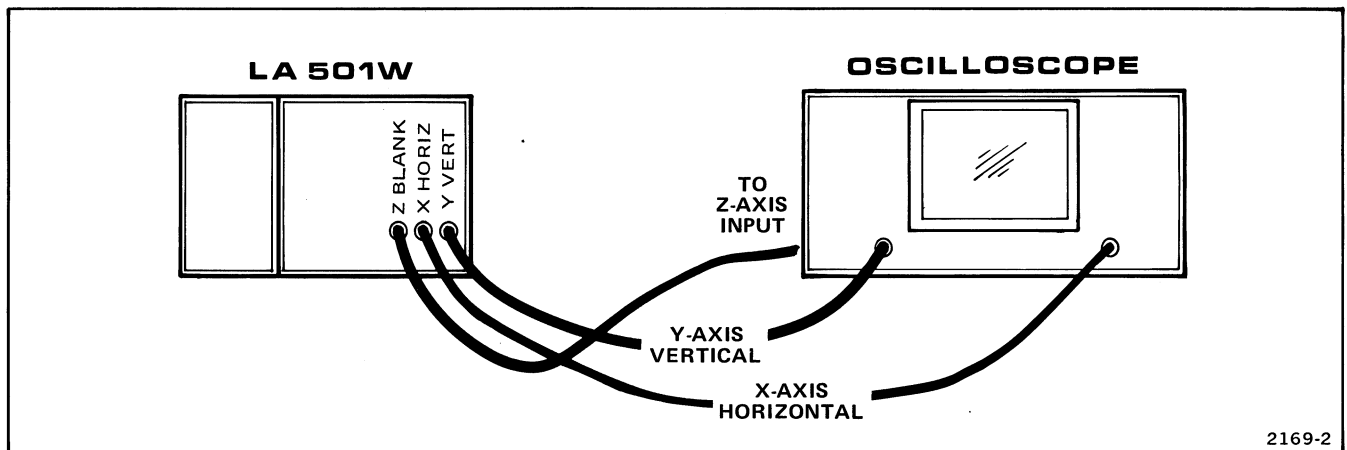

Fig. 3-2. Connecting the LA 501W to an oscilloscope.
Connect the Y VERT OUTPUT to the Vertical input (Y), the X HORIZ OUTPUT to the Horizontal input (X), and Z BLANK OUTPUT to the Z-axis blanking input of your oscilloscope or monitor. (See Fig. 3-2.)